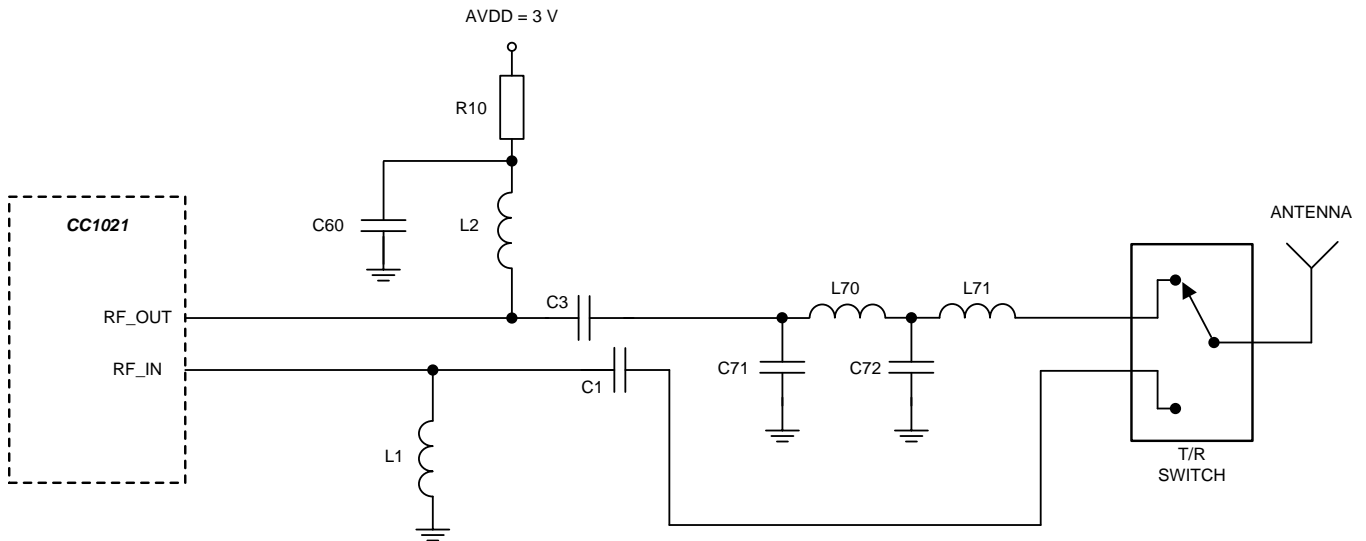

Figure 5-22. Input and Output Matching Network
When designing the impedance matching network for the CC1021 device, the circuit must be matched correctly at the harmonic frequencies as well as at the fundamental tone. A recommended matching network is shown in Figure 5-22. Component values for various frequencies are given in Table 5-8. Component values for other frequencies can be found using the SmartRF™ Studio software.
As can be seen from Figure 5-22 and Table 5-8, the 433 MHz network utilizes a T-type filter, while the 868/915 MHz network has a  $\pi$ -type filter topology.
**Table 5-8. Component Values for the Matching Network Described in Figure 5-22**